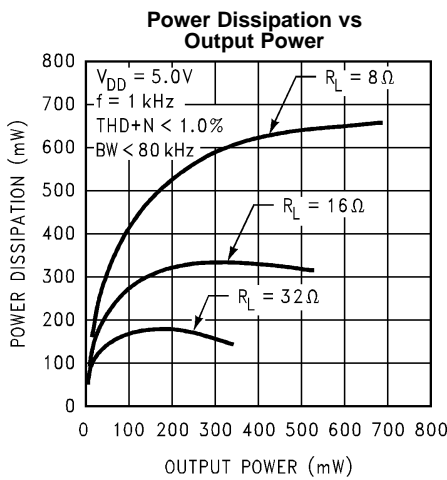

Figure 21.
- (1) All voltages are measured with respect to the ground pin, unless otherwise specified.
- (2) Absolute Maximum Ratings indicate limits beyond which damage to the device may occur. Operating Ratings indicate conditions for which the device is functional, but do not ensure specific performance limits. Electrical Characteristics state DC and AC electrical specifications under particular test conditions which ensure specific performance limits. This assumes that the device is within the Operating Ratings. Specifications are not specified for parameters where no limit is given, however, the typical value is a good indication of device performance.
- (3) Typical values are measured at 25°C and represent the parametric norm.
- (4) Limits are specified to TI's AOQL (Average Outgoing Quality Level).
- (5) Datasheet min/max specification limits are specified by design, test, or statistical analysis.
- (6) The quiescent power supply current depends on the offset voltage when a practical load is connected to the amplifier.
- (7) The NGY0010A package has its exposed-DAP soldered to an exposed 1.2in^2 area of 1 oz printed circuit board copper.
- (8) The DGK008BA package is thermally limited to 595 mW of power dissipation at room temperature. Referring to Figure 21 in Typical Performance Characteristics, the power dissipation limitation for the package occurs at 300 mW of output power. This package limitation is based on 25°C ambient temperature and $\theta_{JA} = 210^{\circ}\text{C}$. For higher output power possibilities refer to POWER DISSIPATION.